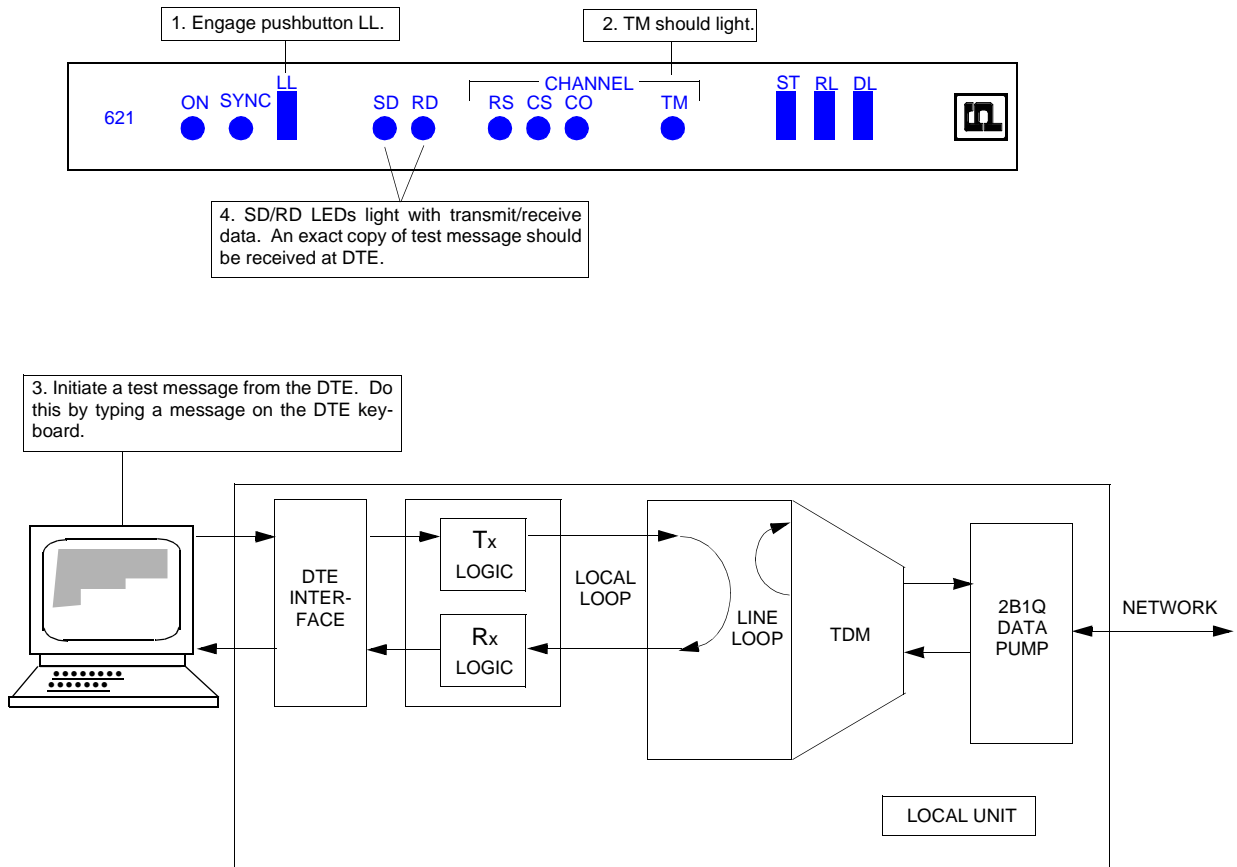

Figure 4-2 Line Loopback (LL) Test
This chapter describes tests you can do from the front panel. *Figures 4-2 through 4-7* show you the 621 front panel. *Table 4-1* displays the diagnostic test priorities. You can use the tests furnished in this chapter to isolate problems in the data communications system (See fault-isolation sequence in *Figure 4-1*).
Line Loopback (LL) checks out the performance of the 621 and its associated DTE. Initiating this test, the NTU transmitter output and receiver input disconnects from the communications line and then reconnects, creating a circuit similar to an analog loopback circuit that loops signals from the transmitter through the receiver. Also, the disconnected transmitter and receiver communications lines connect, creating a circuit (the Line Loopback circuit) that loops received signals back over the communications line to the originating station. *Figure 4-2* illustrates LL using the front panel LL pushbutton.